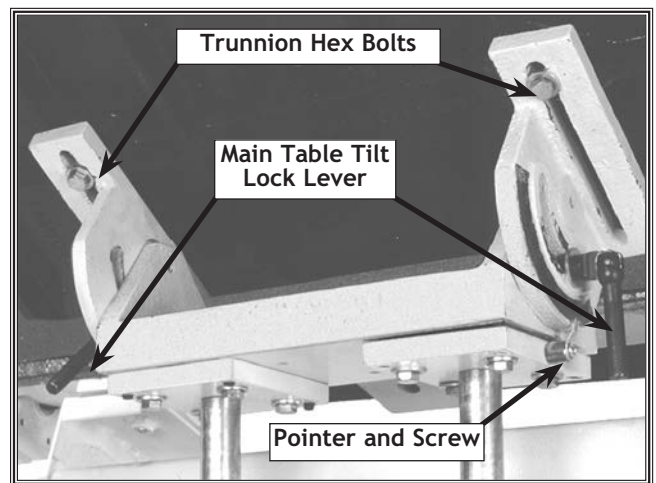

Figure 15. Main table-tilt lock levers and scale.
- Tighten both main-table tilt lock levers. See **Figure 15**.
- Loosen the pointer screw and set the pointer to zero. See **Figure 15**.
- Tighten the two trunnion $\frac{5}{16}$ "-18 X 1" hex bolts. See **Figure 15**.